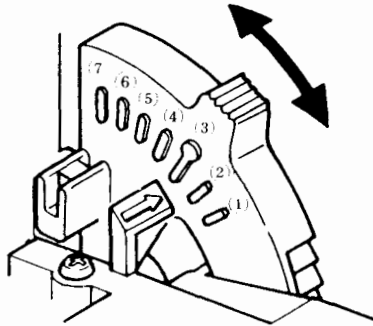

Figure 10. Print Head Adjustment Lever
Position ③ is suitable for one-part paper. Position ⑤ or ⑥ is for multiple part paper. See Figure 10.